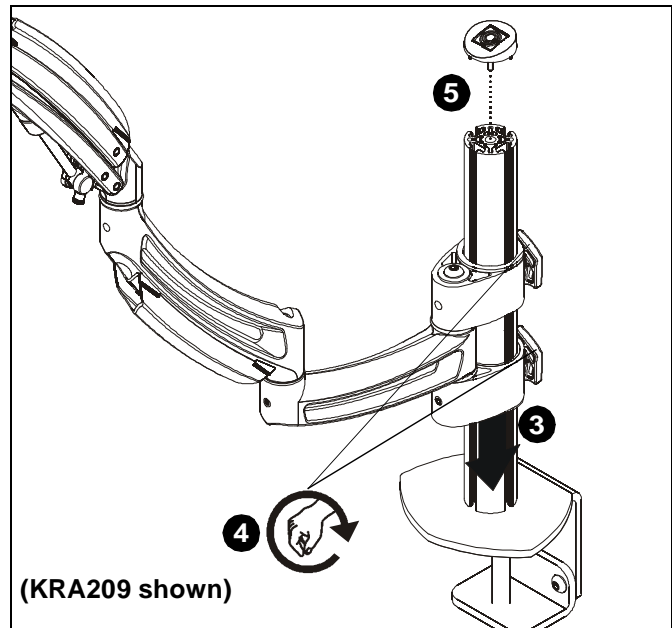

Figure 4
3. Slide KRA209/210 extension arm onto K1 Series mount's column. (See Figure 4)
4. Turn height-adjustment knobs on KRA209/210 clockwise to secure mount in place at desired mounting height. (See Figure 4)
5. Replace removed top cap from column. (See Figure 4)